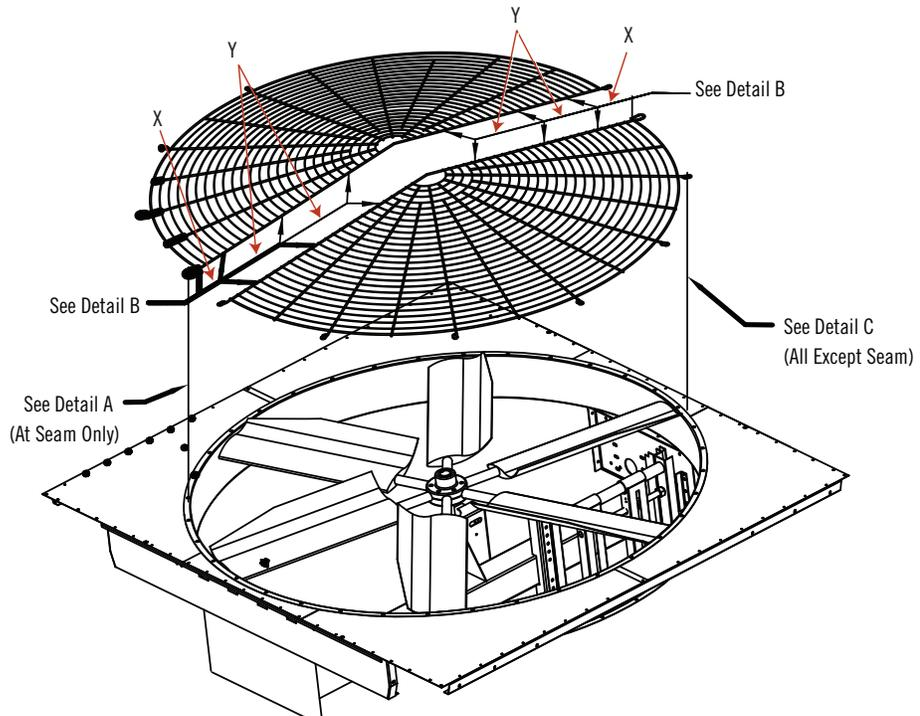

Figure 13. Two-Piece Fan Guard Assembly
NOTE: For X and Y dimension locations, refer to **Figure 13**.
1. Bolt the two halves together as illustrated in **Figure 13, Detail A**. Utilize the X and Y dimensions shown in **Table 3** to determine U-bolt spacing. Gradually tighten each nut, alternating from one to the other, until assembly is secure.
2. Mount fan guard to unit as illustrated in **Figure 13, Detail B** for the seams where the two halves join together, and **Detail C** for all others.